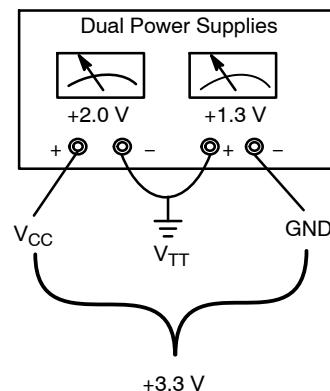

Figure 3. “Split” Power Supply Connections
- b.. or; Connect a “split” power supply to the evaluation board. (see Figure 3)